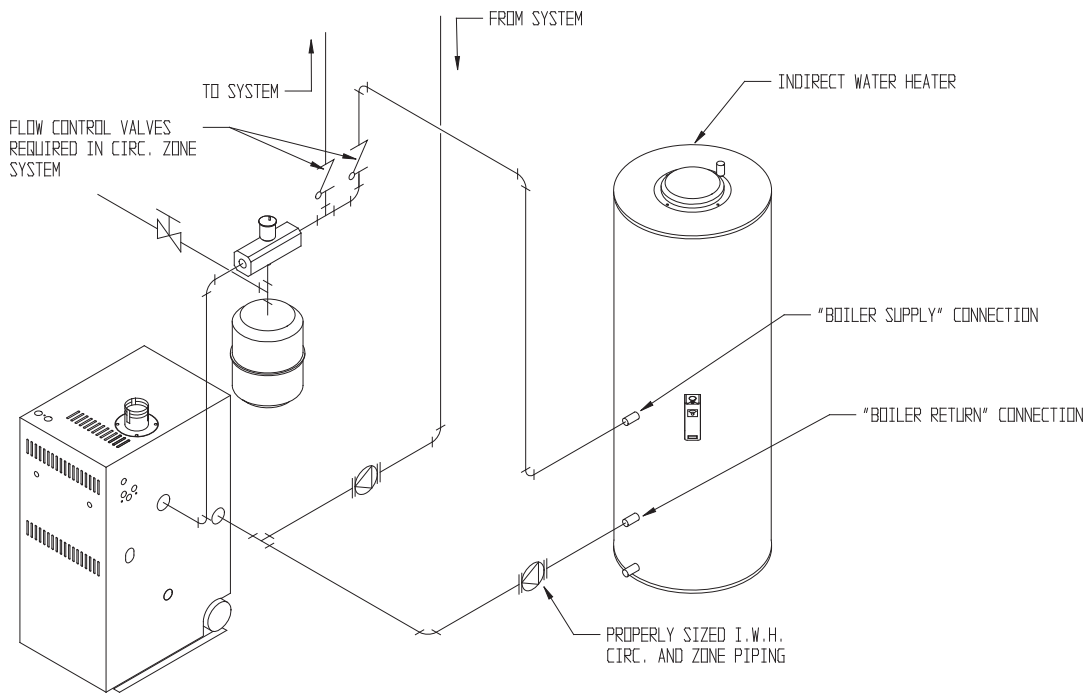

FIGURE 27: INDIRECT WATER HEATER BOILER-SIDE PIPING
- 1) Indirect Water Heaters – Figure 27 shows typical indirect water heater piping. Boiler piping is the same as for any two-zone system. Figure 27 shows circulator zoning, which is usually preferred for indirect water heaters. Size the circulator and indirect water heater piping to obtain the boiler water flow through the indirect water heater called for by the indirect water heater manufacturer. The standard CWD control system will operate two circulator zones. See the Wiring section of this manual.